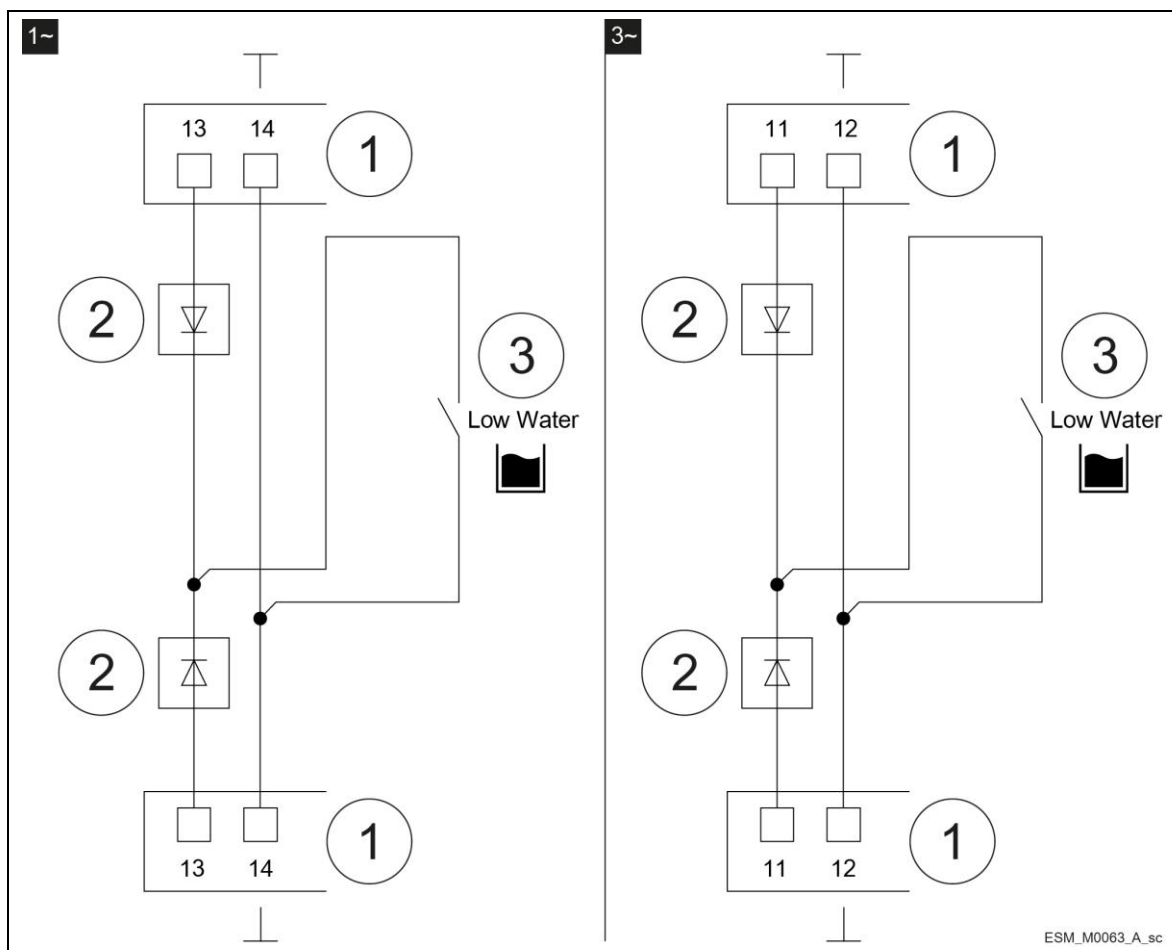

Figure 12: Diode
- When twin mode is enabled, if only one single lack of water external contact is used for both units (terminals 13-14 for the single-phase version, terminals 11-12 for the three-phase version), two diodes must be inserted, making sure to comply with the polarity between the contacts of the 2 units. Refer to figure 12.